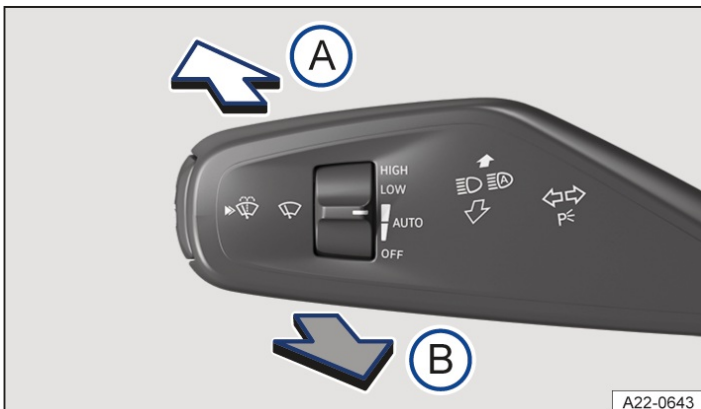

Fig. 1 On the left-hand side of the steering column: turn signal and main beam lever.
3. Tap the lever forward from the basic position → Fig. 1 .